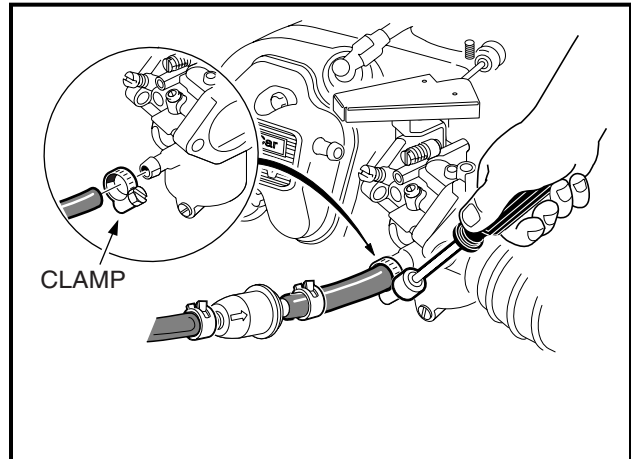

Figure 16-55 Connect Fuel Line
29. Pull fuel line from impulse line fitting of the fuel pump and connect it to the carburetor and secure with a hose clamp (**Figure 16-55, Page 16-21**).